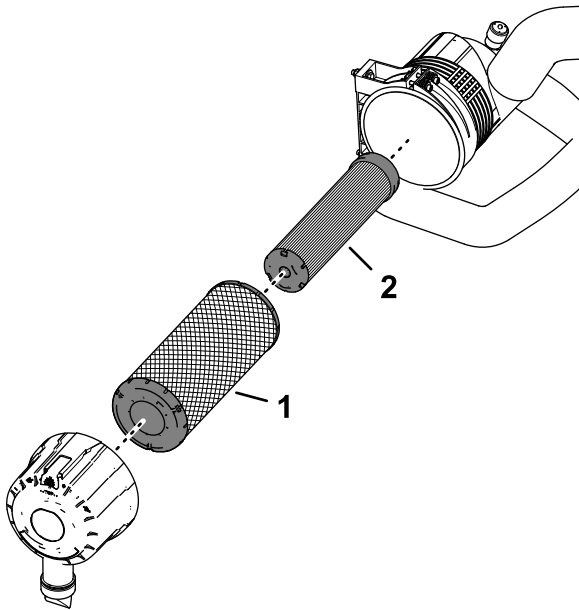

Figure 76
1. Check the safety-filter element (Figure 76). If it is dirty, replace it.
Important: Never attempt to clean the safety filter (Figure 76). Replace the safety filter with a new one after every 3 primary filter services.